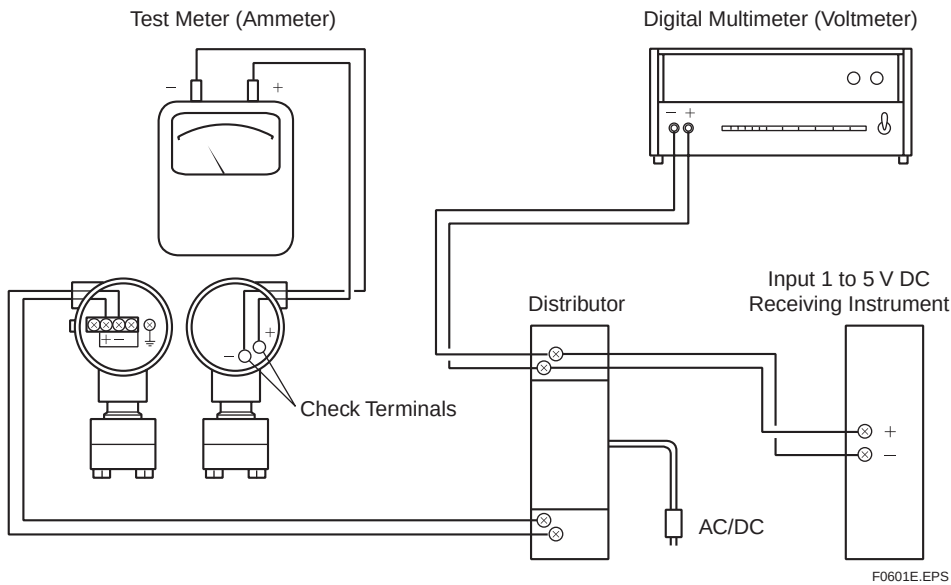

Figure 6.1 Instruments Connection
- 3) If the pressure range is zero-based, leave the transmitter input pressure port open to the atmosphere. If it is not zero-based, apply a pressure corresponding to 0% output. Under these conditions, turn the zero adjustment screw so that the output is 0% (Figure 6.1).